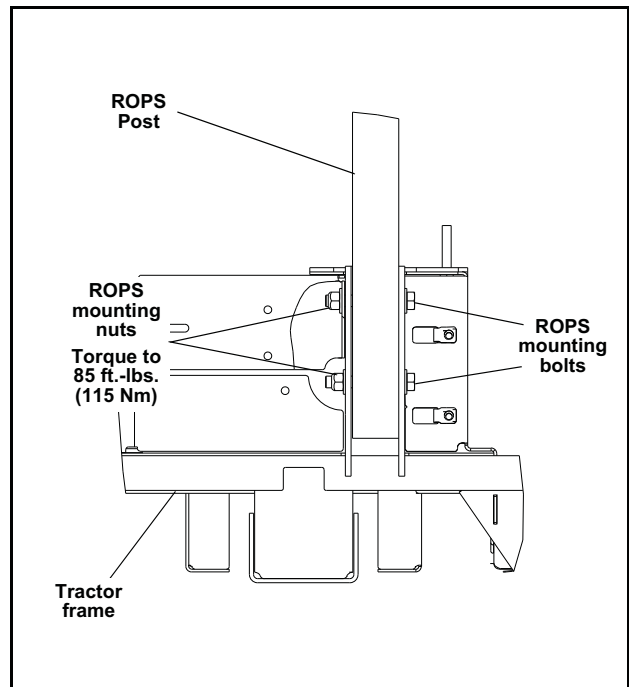

Fig. 3-6
1. Check the torque of the ROPS mounting bolts. Tighten the bolts to the correct torques as shown below if necessary. Fig. 3-6